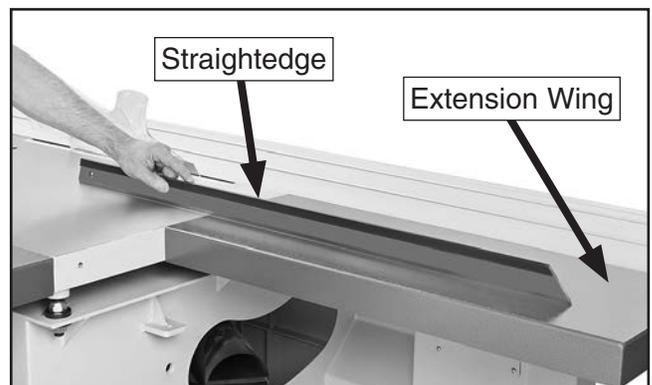

Figure 29. Using a straightedge to make sure the table/wing top surfaces are even.
28. Place the straightedge across the cast iron table and an extension wing, then adjust the set screws in or out to make the top surface of the wings even with that of the cast iron table (see **Figure 29**).